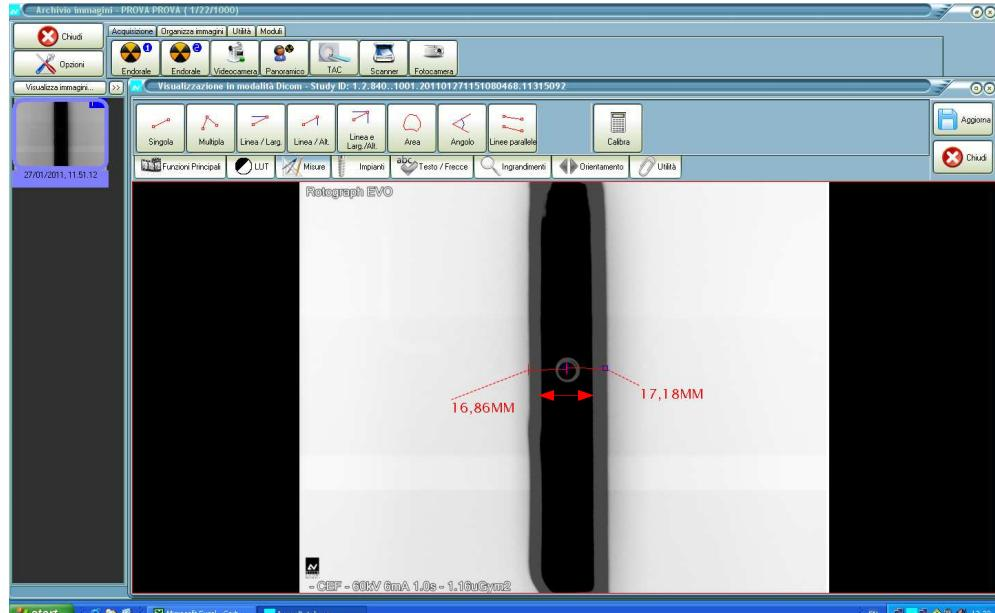

Figure 9-27
17. Check on the image if the Ear Centering Circles are concentric (small circle inside the big circle – i.e. as shown in Figure 9-27).